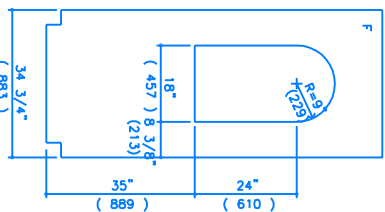

FIGURE 4
- 3) Cut out window from piece F as shown (Fig 4).